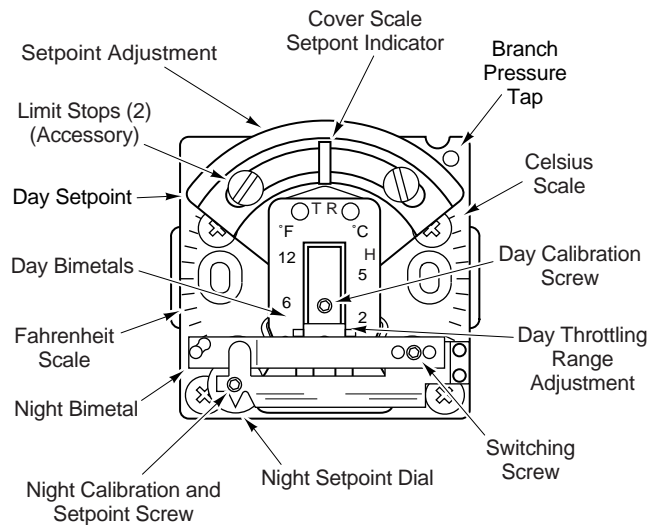

Figure-9 Thermostat Calibration Features and Limit Stop Accessory.
1. Remove the thermostat cover and install a 22-138 branch tap gauge adaptor into the branch pressure tap hole (Figure-9).
1. Position the day setpoint cam (Figure-9) to match the ambient temperature.
2. Using a 20-881 thermostat wrench (1/16" hex wrench) in the night setpoint screw (Figure-9), position the night setpoint dial to match the ambient temperature.
The internal stop kit, model 20-712, consists of two screws and two nuts (Figure-9). Install this kit as follows: